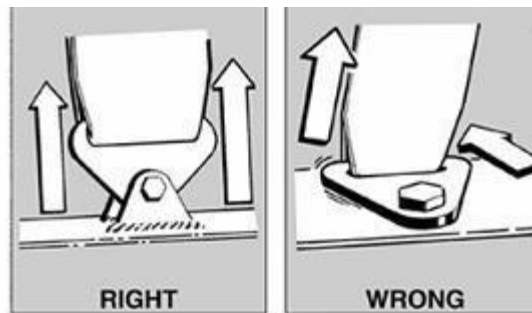

Figure 13
**Eye bolt lap belt connections are specifically prohibited.** The lap belts must freely pivot to fit drivers of differing statures correctly. The lap belt bracket must not be loaded in bending (see Fig.13 above).